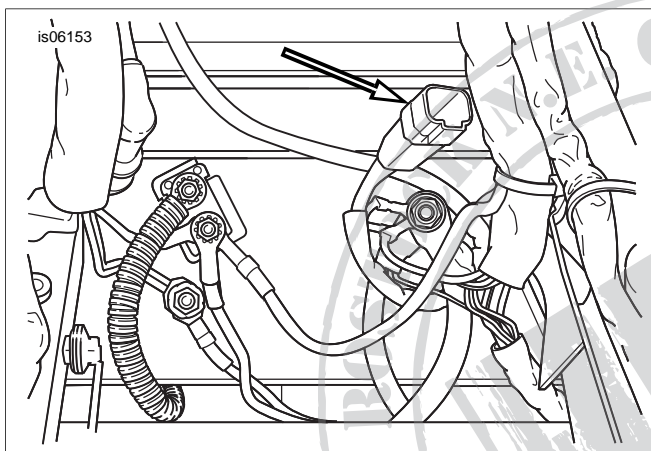

Figure 2. Accessory Connector [4] Location Under Seat
2. Locate the four-way accessory connector [4] in the area under the seat. See Figure 2. Remove the plug from the accessory connector.